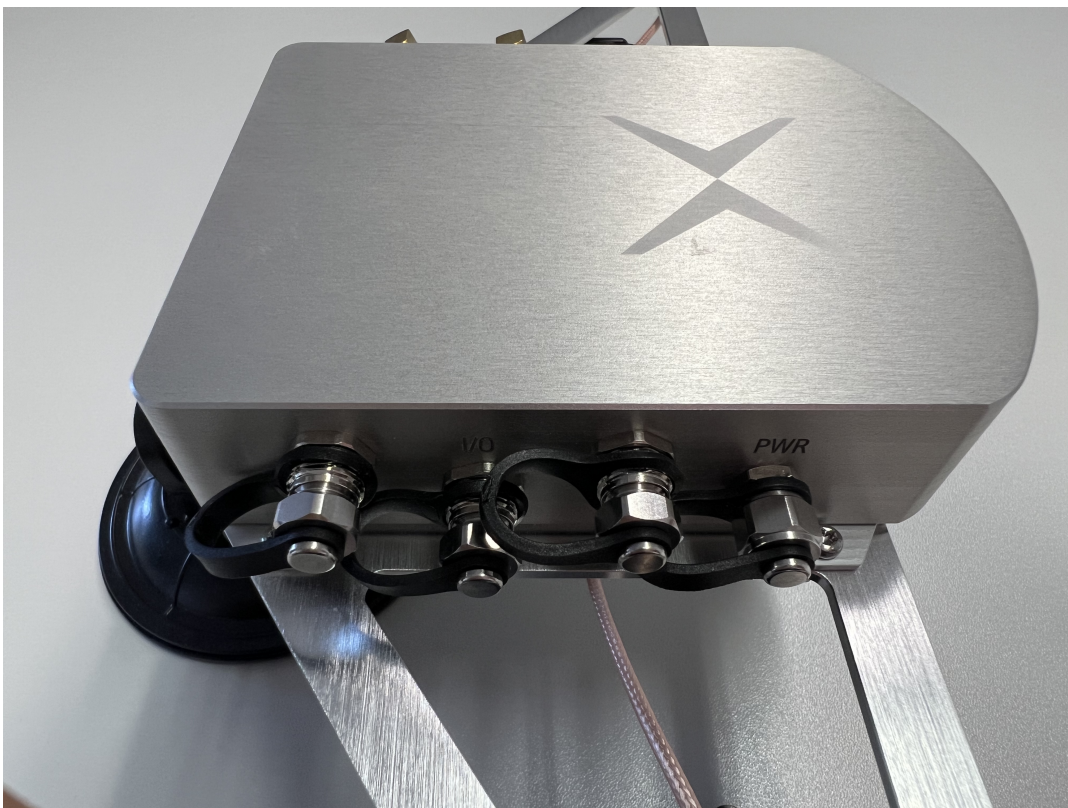

Figure 4.5.: Vision-RTK 2's connectors secured with protective caps
- Secure all unused connectors with protective caps (see Figure 4.5).